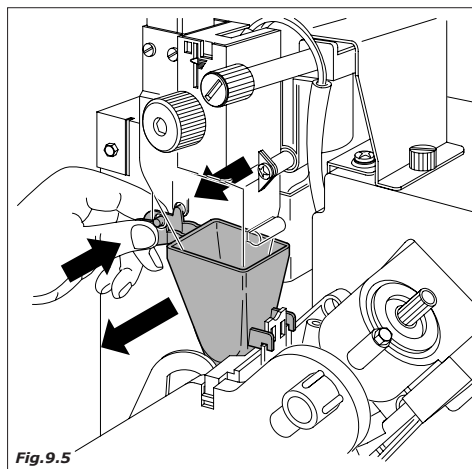

Fig.9.5
- coffee funnel and chute (Fig. 9.5)